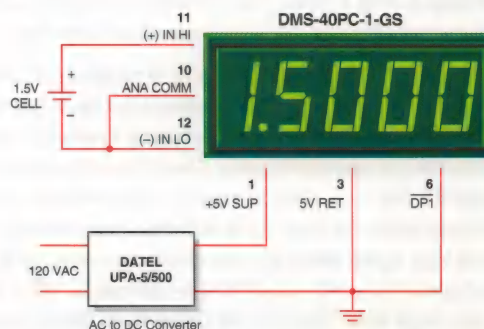

Figure 5. Floating Input Measurements
**4. Floating Signal Source Measurements:** A floating input is a signal that, before it is applied to the DMS-40PC's inputs, has no galvanic connection (direct current path) to the meter or the meter's power supply. The circuit shown in Figure 5 illustrates the necessary connections for measuring floating inputs. The 1.5V battery represents a true floating input signal since it initially has no connection whatsoever in common with the meter. Real-world floating inputs typically originate from power supplies which are transformer isolated from the DMS-40PC's +5V supply.
As the timing diagram in Figure 5 indicates, 100Hz is the optimum display scan rate when the BCD outputs are used to drive external LED displays. Faster scan rates, while permissible, are not necessary. Slower scanning, however, may result in noticeable "flickering" of the display. Common anode LED's, combined with a 74LS247 BCD to seven-segment decoder, is the